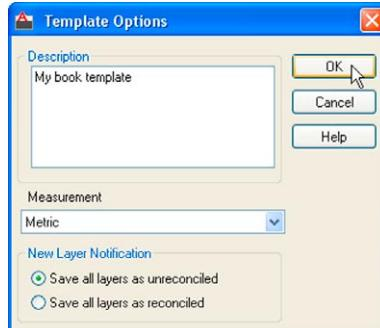

Fig. 4.22 The **Template Description** dialog
4. The **Template Option** dialog appears. Make *entries* as suggested in Fig. 4.22, making sure that **Metric** is chosen from the popup list. The